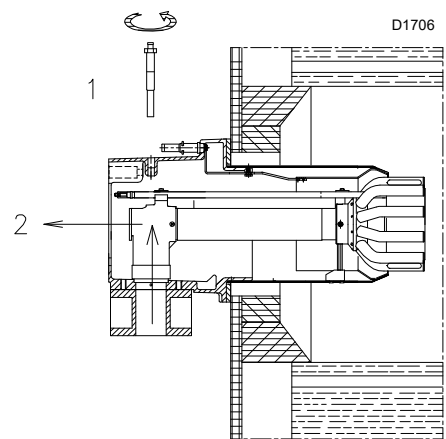

Fig. 13
- remove the screw 1)(Fig. 13)
- take out the inner part 2)(Fig. 13) of the head and then calibrate them.